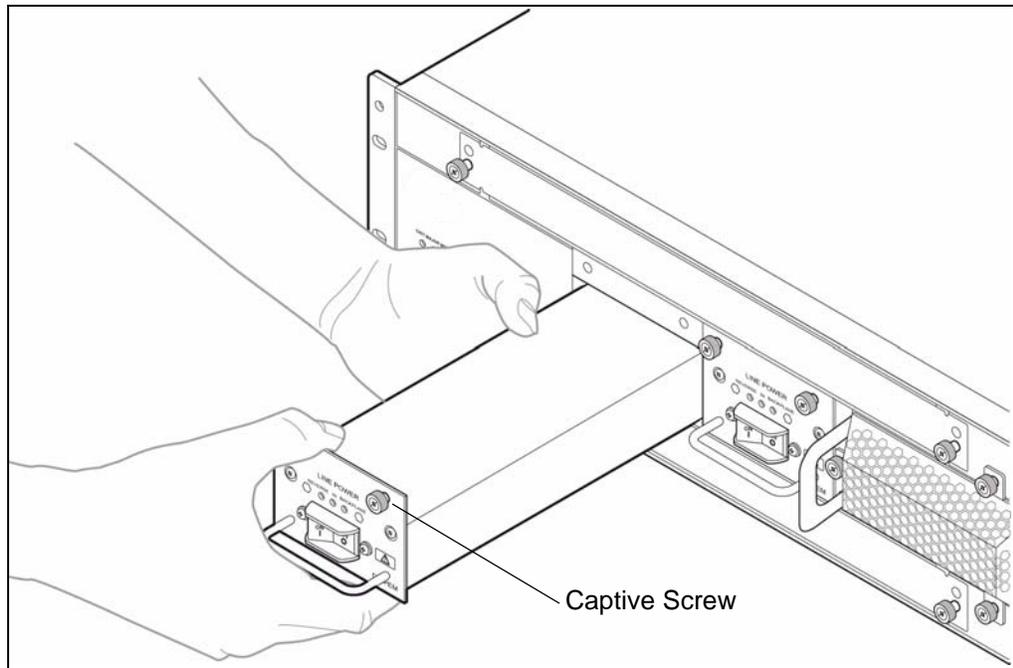

Figure 5.1 - Inserting the Replacement DC PEM
8. Insert the replacement PEM (see Figure 5.1).